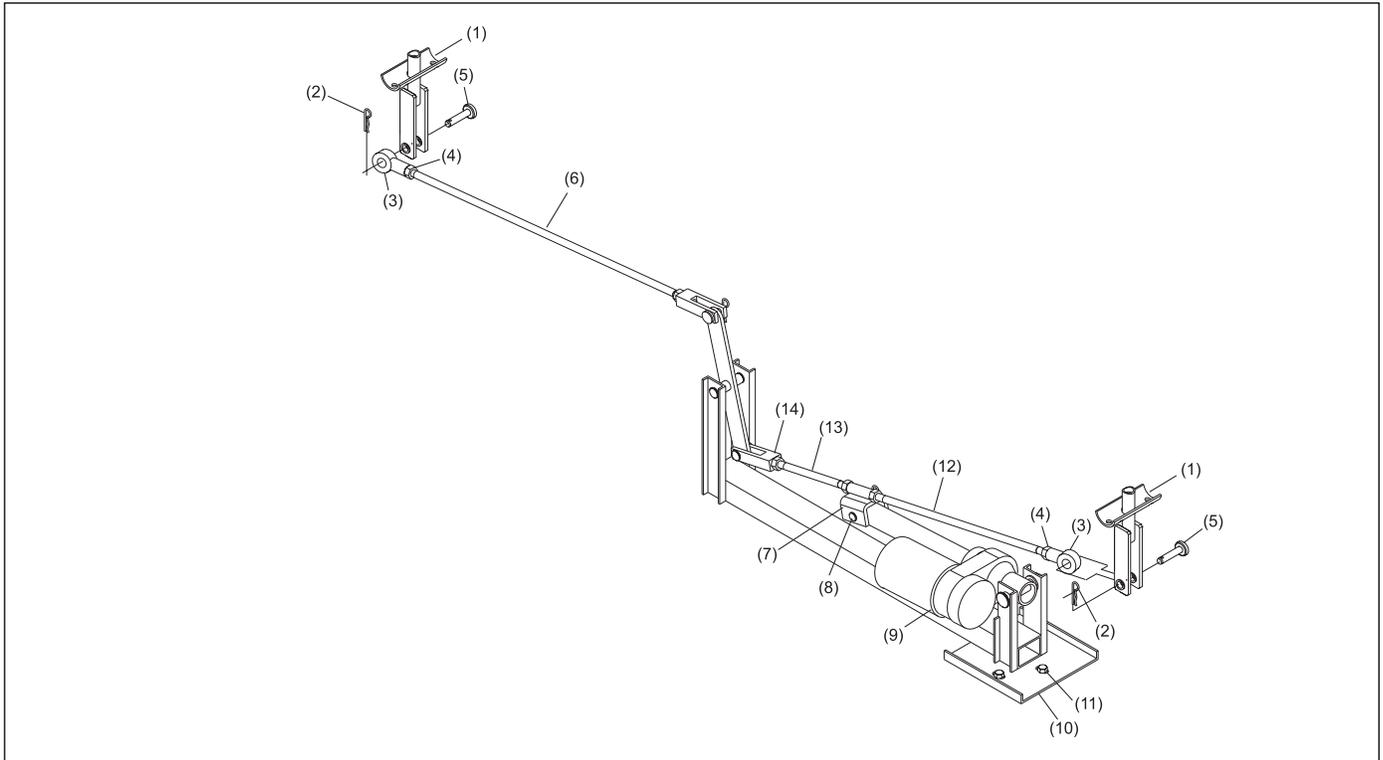

Figure 21. Component Identification
The following procedures list the steps required to inspect for and then correct an unacceptable interference between the actuator motor drive screw and the yoke pin on the mechanical linkage. These steps should be accomplished after **REPLACING AN ACTUATOR ASSEMBLY**. Refer to *Figure 21*.
- d. Disconnect clevis pins from the gutter clevis assemblies for both gutters. Refer to *Figure 21*.